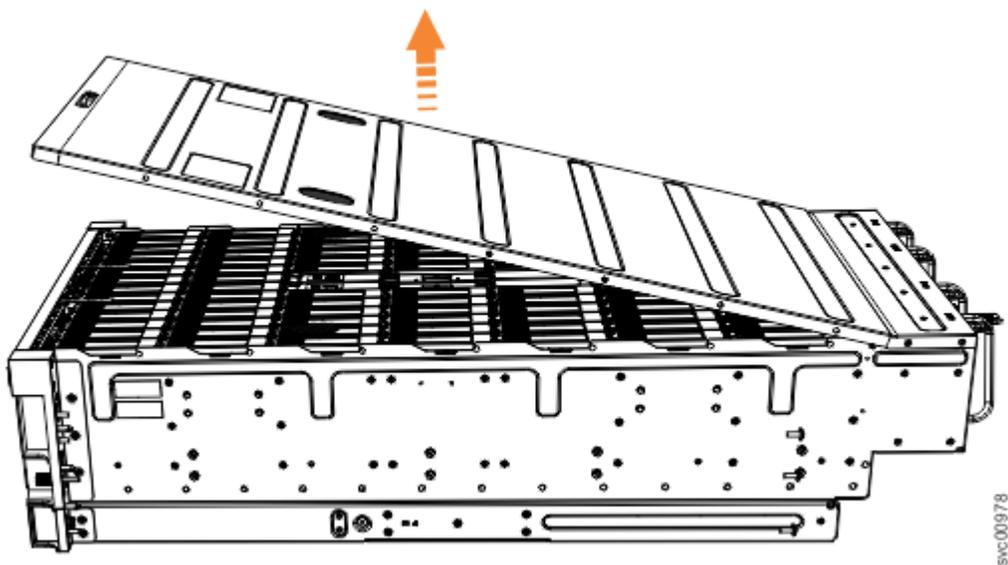

Figure 53. Removing the 2145-92F cover
3. Carefully lift the cover up, as shown in Figure 53 on page 57.